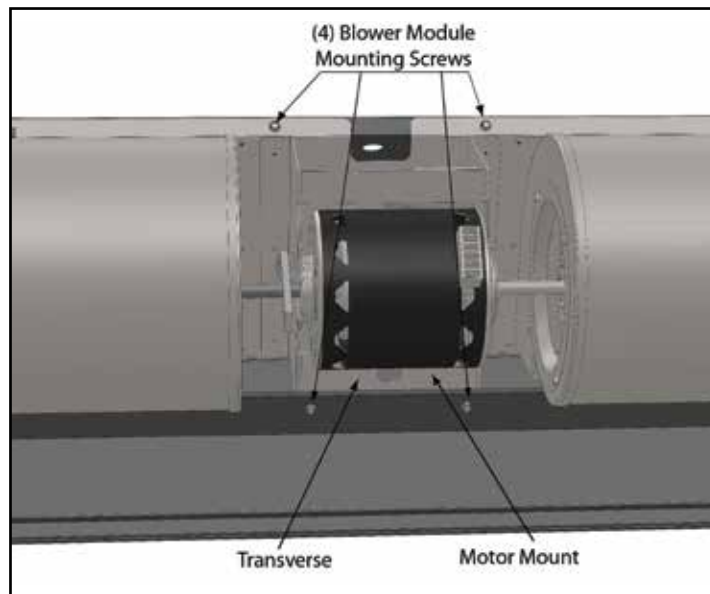

FIGURE 12 - Location of screws
4. Removing the blower module requires removing (4) #12 self-drilling sheet metal screws. Using a 5/16" hex driver, first remove the (2) screws that go through the Transverse into the Motor Mount. See Figure 12.
5. After removing the (2) screws in this step, the approximately 40 lbs. module will be free to drop down out of the unit. While holding the module in place by pushing up onto the motor, remove the top, final (2) screws that go through the Blower Plate into the Main Channel. See Figure 12.